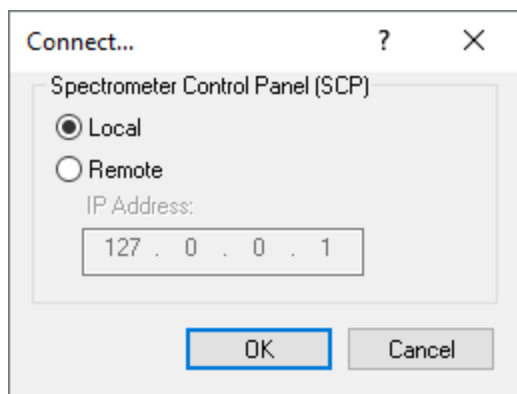

Figure 96: The Connect... dialog
- **Go On-line...** will display the **Connect...** dialog (Figure 96) on which you will be asked to supply the Chirascan **IP Address**. It is used when Chirascan Viewer has been started as a stand-alone program and you want subsequently to establish a link with the SCP^[67]. If the two programs are running on the